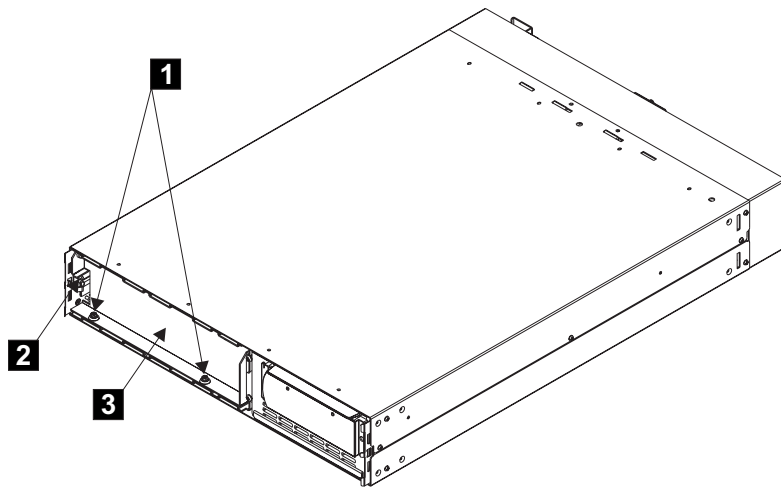

Figure 32. Removing the battery retaining bracket
- c. Remove the two bolts **1** and additional nut **2** on the left side of the bracket, as seen in Figure 32 on page 69. Next, remove the battery retaining